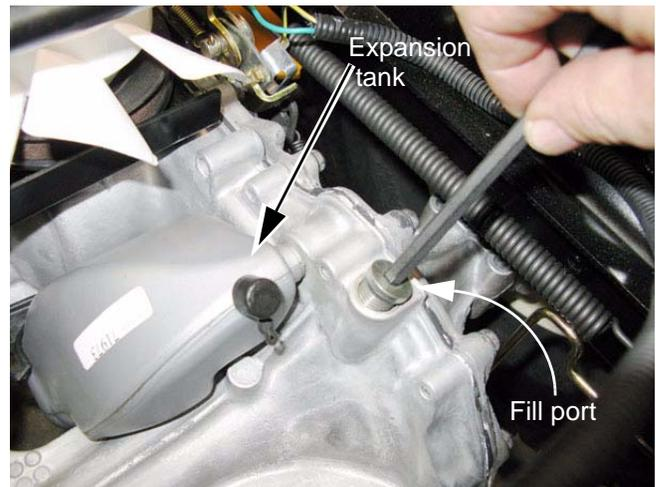

Figure 5.11
- Check at the socket-head plug on the casting, NOT the plastic expansion tank. Remove the plug using a 1/4" allen wrench. See Figure 5.11.